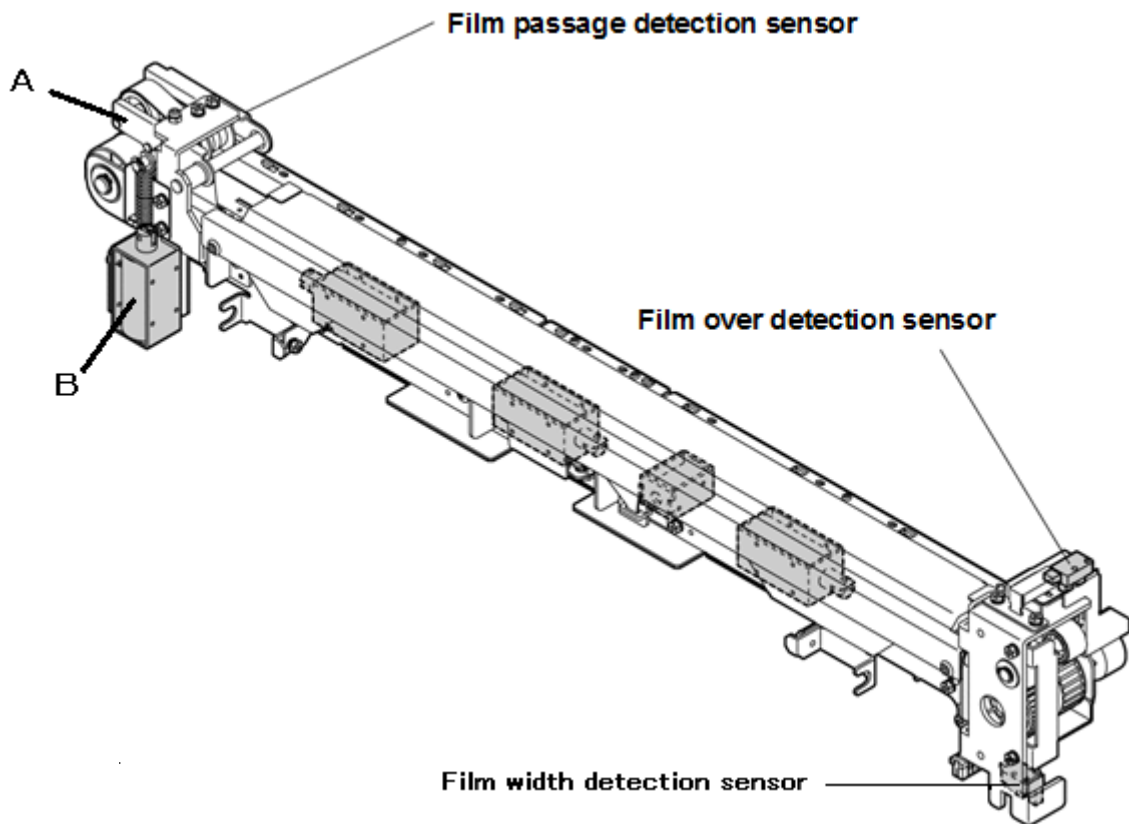

Figure 1 Film feeder (front)
In Figure 1, the deliver unit inserts a film forefront into the (A) position. After the solenoid of the (B) position starts operating, the (A) position pinches the close film. The timing belt starts rotating and sends the film to the clamp. After a portion of the film is delivered (when the film falls down the detection board of the rear sensor / when time is run out), the distance between the front feeder and the rear feeder becomes wider, the film is stretched, and then unnecessary films is cut. After the film is cut by an operator, loading is completed.